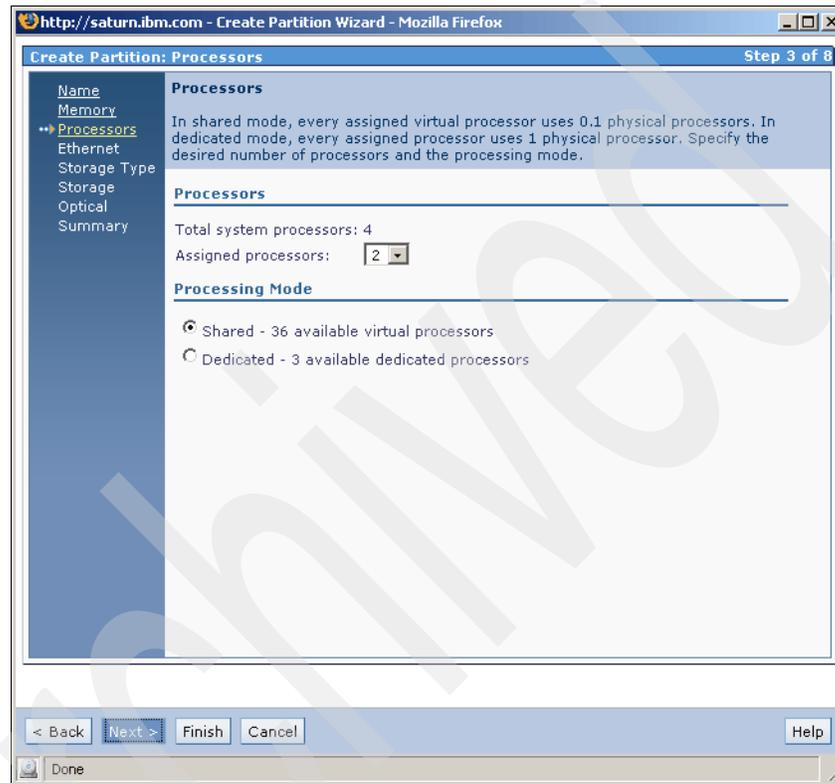

Figure 4-18 Create partition - CPU configuration
7. Choose the number of CPUs that will be used by the partition. You have to decide whether to use dedicated or shared CPUs. When a dedicated CPU is used, no load can be moved to other currently free CPUs because this may lead to a performance issue. In Figure 4-18 you see that we configured two CPUs and shared processor mode. Click **Next** to proceed.